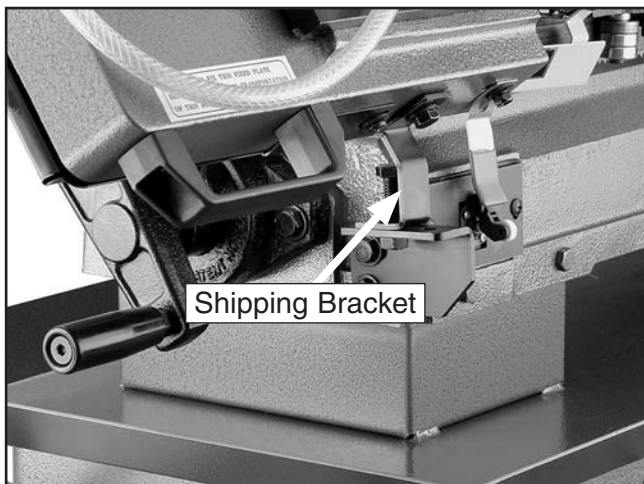

Figure 5. Removing shipping bracket.
1. Use a 12mm wrench to remove the top hex bolt and flat washer, use a 14mm wrench to loosen the bottom hex nut and remove the shipping bracket shown in **Figure 5**.